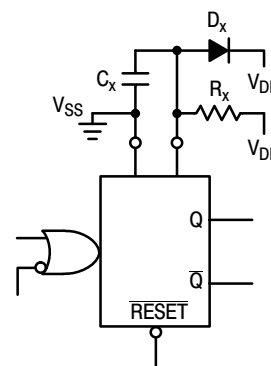

Figure 11. Use of a Diode to Limit Power Down Current Surge
7. If  $C_X > 15 \text{ }\mu\text{F}$ , use discharge protection diode per Fig. 11.
When a more rapid decrease of  $V_{DD}$  to zero volts occurs, the MC14538B can sustain damage. To avoid this possibility use an external clamping diode,  $D_X$ , connected as shown in Fig. 11.